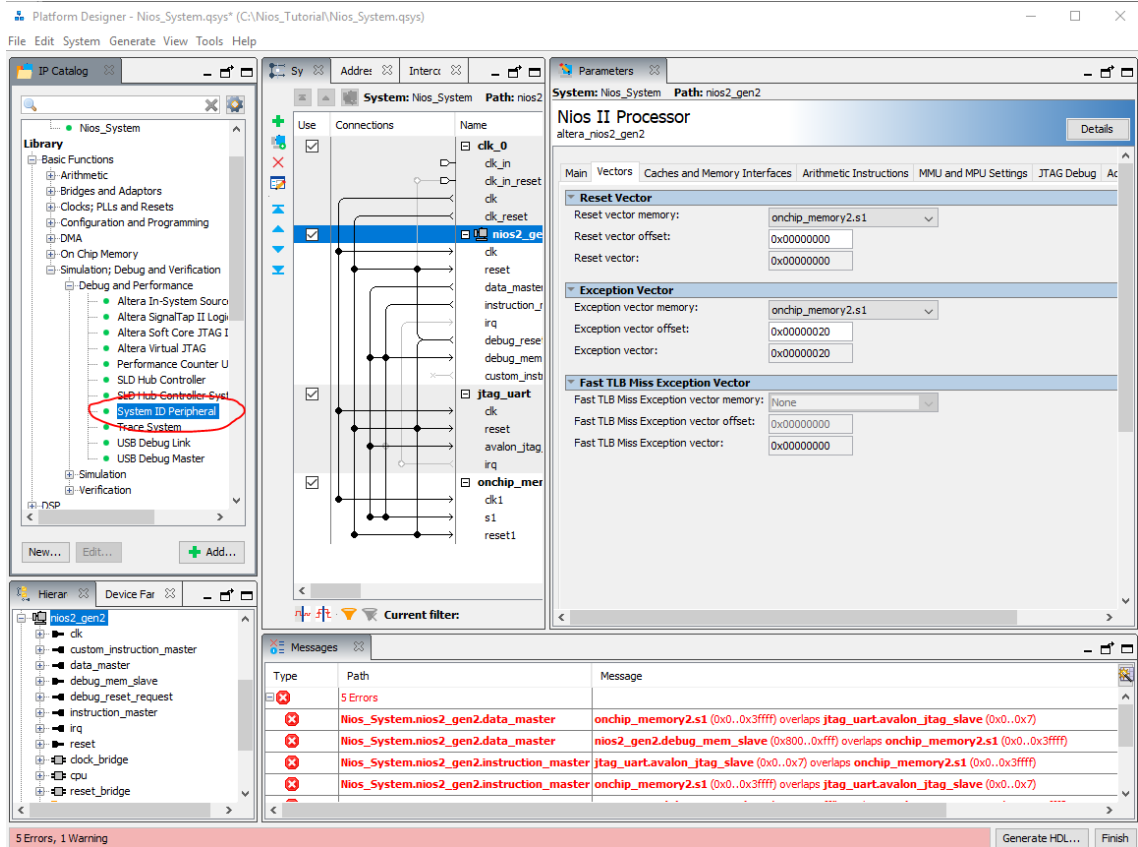

Figure 1-19 Adding system ID
13.) Next up is to add the System ID to the system. Choose **Library** → **Basic Functions** → **Simulation; Debug and Verification** → **Debug and Performance** → **System ID Peripheral** as shown in Figure 1-19 and 1-20.